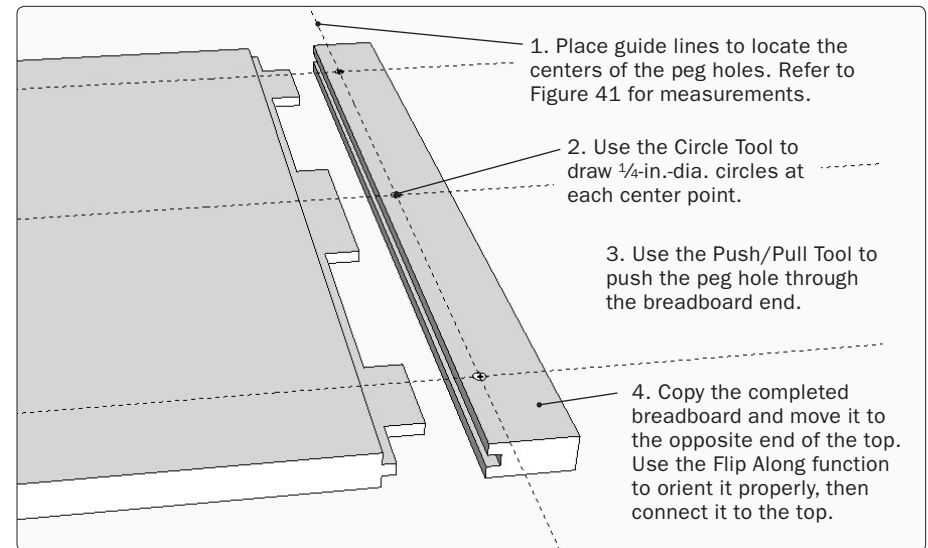

Figure 44. Create peg holes in the breadboard end.
Step 40 Create the peg holes at the ends of the breadboard. Place guidelines to locate their centers. Use the Circle Tool to create a circle on the top face, then use the Push/Pull Tool to push the hole all the way through the breadboard. You don't need to show corresponding holes in the tenons. (Figure 44).